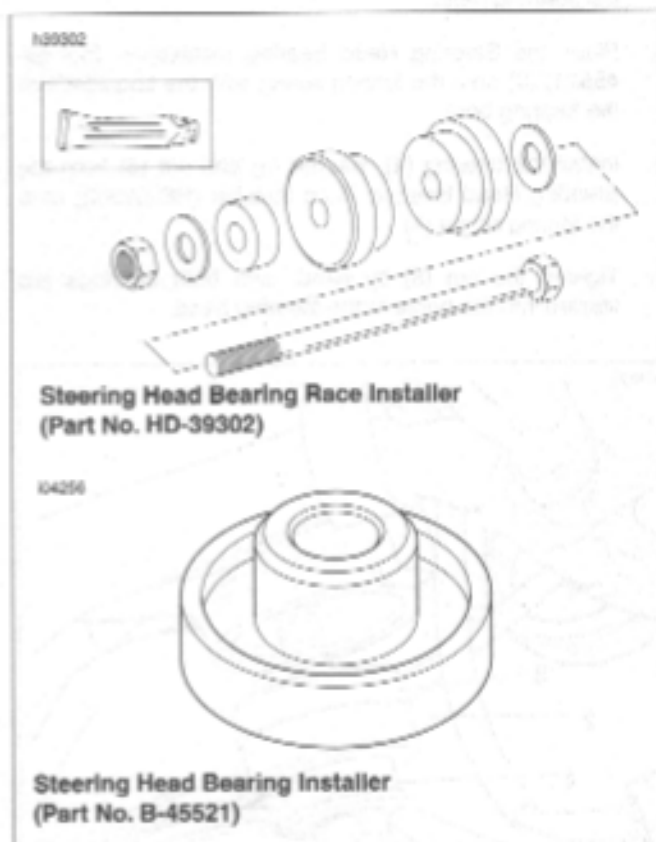

Figure 2-71. Steering Head Bearings Installation Tools
1. See Figure 2-71. Install new upper and lower steering head bearings into the steering stem using STEERING HEAD BEARING RACE INSTALLER (Part No. HD-
- b. See Figure 2-71. Insert the steering head bearing installation tool into the upper bearing, with the shoulder into the bearing bore.